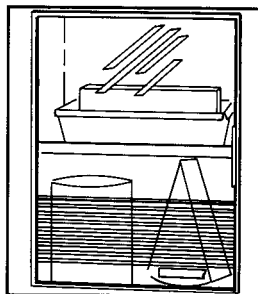

FIGURE 21
**Dairy Storage.** On 20, 22 and 25 cubic foot models, store butter and cheese in an adjustable dairy module complete with full length top door shelf, two dairy compartments with sliding door and three food storage containers. The 19 cubic foot model features one large dairy compartment with two condiment trays and three food storage containers. See Figure 21.